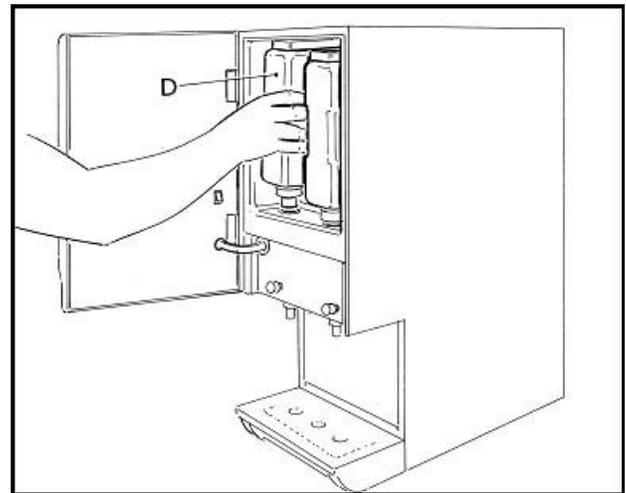

FIGURE 6
9. Load the concentrate container (D) in place and press down firmly to seat into the ball-check adapter, see FIGURE 6.